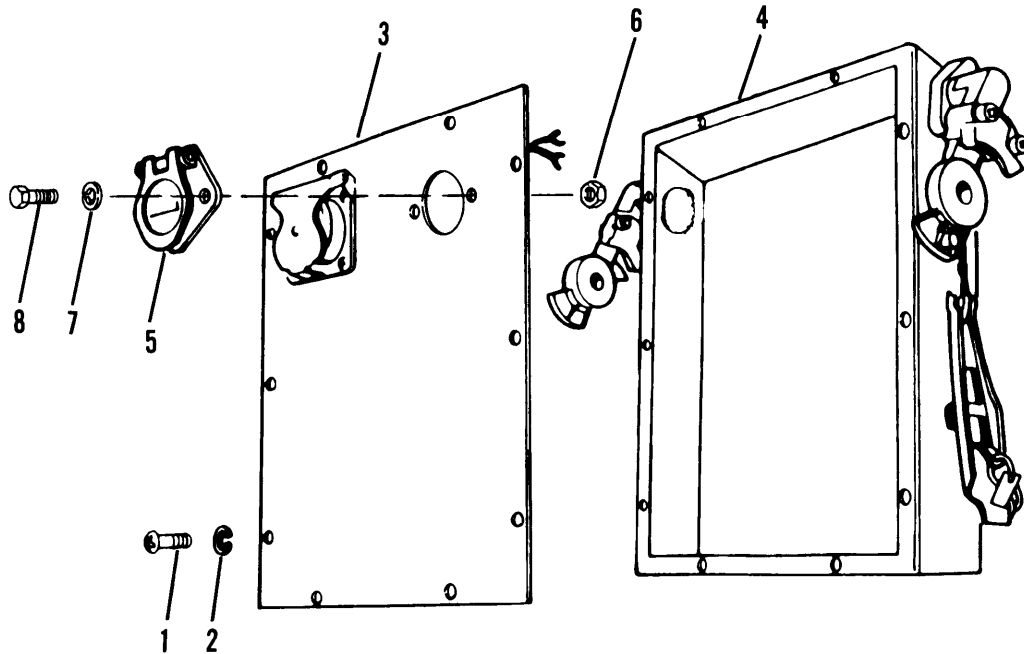

Figure 4-1. 12 Volt Receptacle
- (1) Remove ten screws (1, fig. 4-1) and ten washers (2).
- (2) Ease the nose box cover (3) away from the nose box (4).
- (3) Tag wires to 12 volt receptacle (5).
- (1) Install 12 volt receptacle (5, fig. 4-1) in nose box cover (3). Secure receptacle (5) with two bolts (8), lockwashers (7) and nuts (6).
(3) Tighten seven screws on receptacle (5, fig. 4-1).